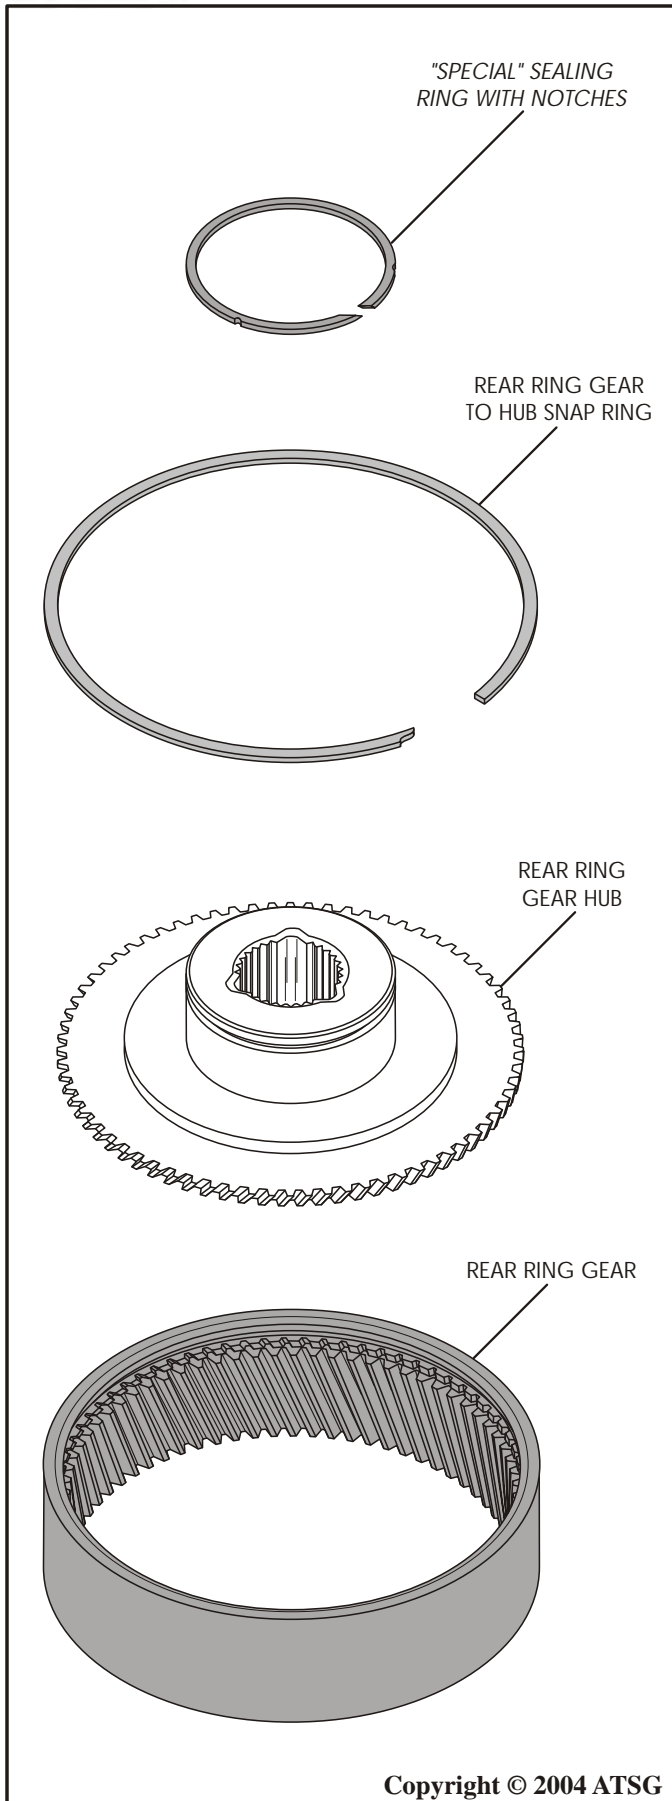

Figure 99
1. Inspect all rear ring gear parts thoroughly as shown in Figure 99.
2. Remove and discard the sealing ring on the rear gear hub, as shown in Figure 99.
3. Assemble the rear ring gear hub into the rear ring gear and install the snap ring, as shown in Figure 99.
4. Install a new sealing ring into the groove in the ring gear hub, as shown in Figure 99.